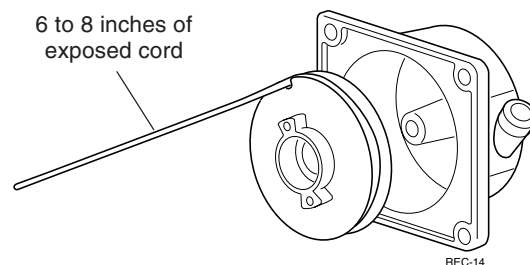

Figure 4.8 Installing the reel
**STEP 2.** Wind the cord on the reel in the reverse order of removal, but leave the last 6 to 8 inches of cord exposed and hanging from the reel notch (Figure 4.8).
**STEP 1.** With 6 to 8 inches of starter cord still protruding from the reel notch, wind the reel 2 to 3 turns counter-clockwise (clockwise on F-20). See Figure 4.8.